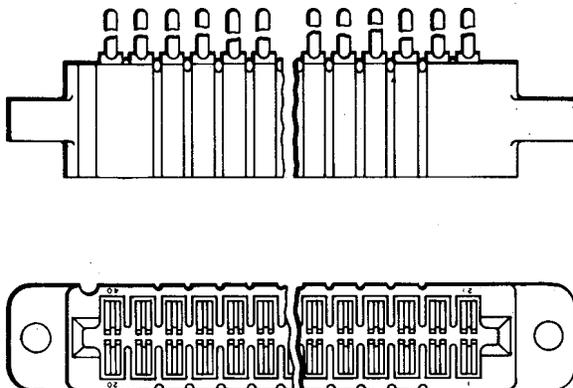

Fig. 1—908A, B, C, E, F, G, H, J1, J2, J3, J4, J5, J6, J7, J8, J9, J10, J11, J12, K, L, M, P, T, U1, U2, U3, U4, U5, W, or Y Connector
2.01 908-Type: The 908-type connectors consist of a molded block of insulating material containing contact spring assemblies equipped with twin contacts for connection to a printed wiring board. The wiring end is arranged for mechanically wrapped connections, unless otherwise stated. These connectors are arranged with contacts in a single row or double row configuration. Single rows are arranged to make contact with printed wiring terminals on one side of a 0.062-inch thick printed wiring board. Double rows of terminals are arranged to make contact with printed wiring terminals on two sides of a 0.062-inch thick printed board. (See Fig. 1, 2, and Table A.)